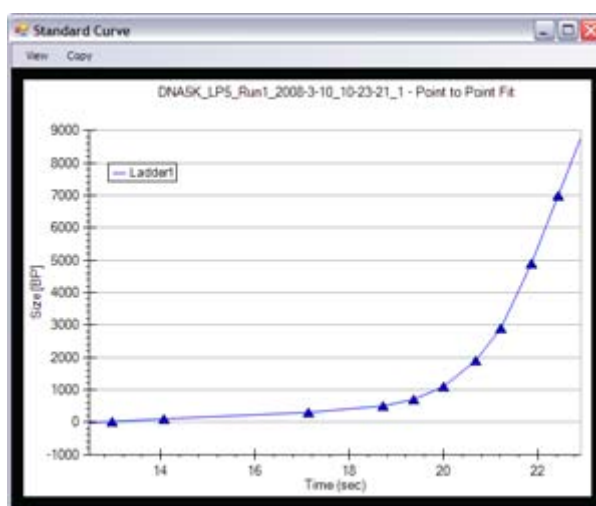

Figure 119. DNA Assay Standard Curve
When you choose **Standard Curve** from the **View** menu for a DNA assay, a window similar to Figure 119 opens. The standard curve is drawn from the values obtained for the DNA ladder. It is a plot of the size of the ladder peaks vs. time with a point-to-point fit. For each sample peak, the apex is interpolated from the Standard Curve to determine the peak size in base pairs (BP).